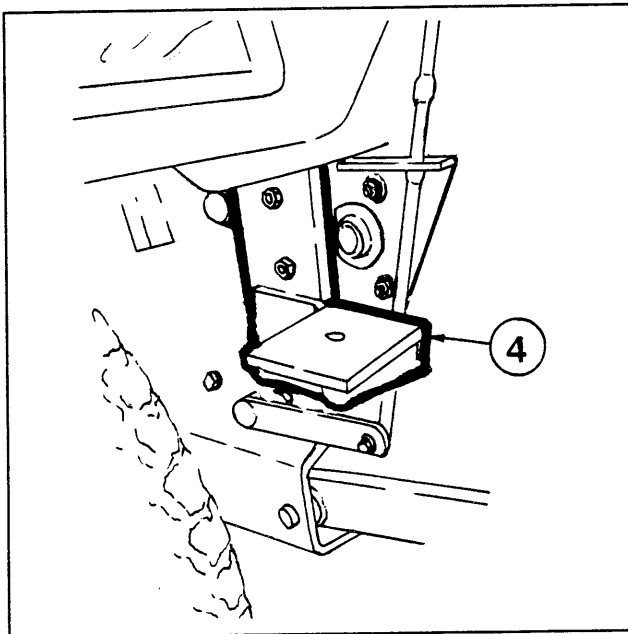

Figure 3
the front two 3/8" o.d. factory bolts of the four-hole bolt pattern on each side of the transmission housing used to fasten the 3-pt. arms. Line up the rear brackets (4) with the three-hole bolt pattern in the transmission housing. Loosely attach the brackets with the 3/8"x1 1/2" hex bolts, hex nuts, and lockwashers provided for the top two holes, and the 1/2"x1 1/2" hex bolt, hex nut, and lockwasher provided for the bottom hole (see Figure 3).